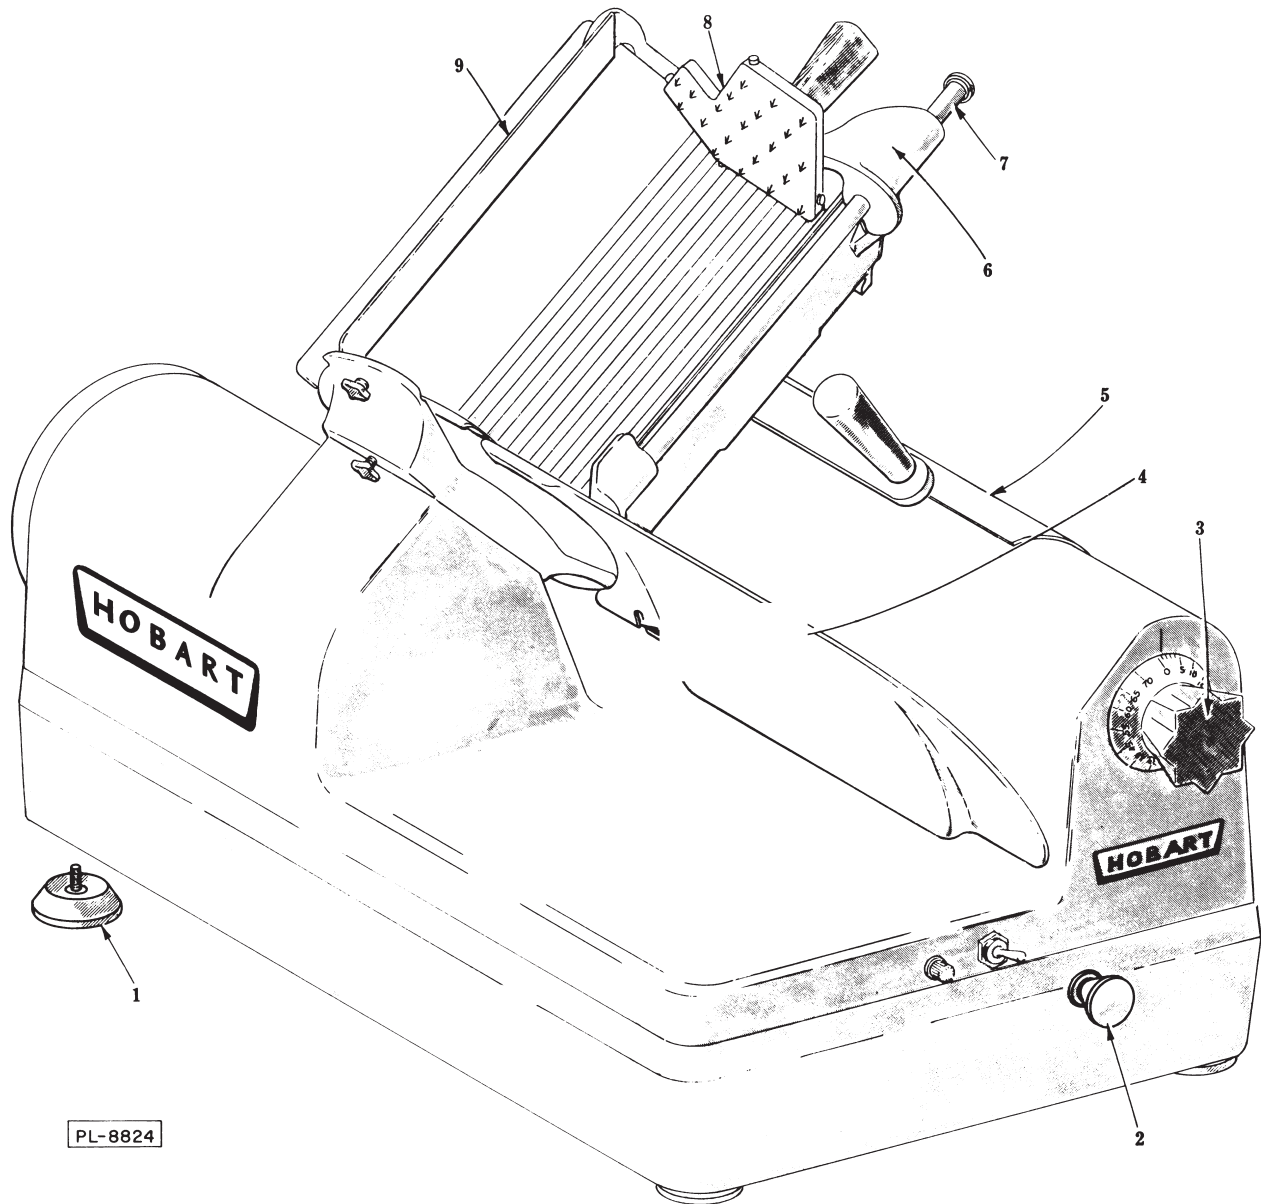

Fig. 1
When the machine is packed for shipment, the four rubber feet (1, Fig. 1) are taken off to permit bolting the base to the shipping skid. The feet are shipped in a cloth bag and can be quickly installed. It is not necessary to fasten the slicer down in ordinary service, as the cup-shaped rubber feet will keep it from slipping on the table.
Before making electrical connections, CHECK THE SPECIFICATIONS ON THE NAME PLATE (5, Fig. 1), TO MAKE SURE THEY AGREE WITH THOSE OF YOUR ELECTRICAL SERVICE.
The knob or dial (3, Fig. 1) adjusts the thickness of the slices cut. The numbers on the dial do not indicate actual measurements, but are helpful in duplicating past performances. To obtain the maximum slice thickness, it is necessary to turn the knob beyond one complete revolution.
The carriage speed shift may be changed with machine running or not running and also with the carriage engaged or not engaged. Speeds are easily changed (when the carriage is moving or stopped) if there is no load on the diving key. The “no-load” condition on the diving key occurs at each end of the carriage stroke while machine is running or can be produced when the machine is stopped by moving the carriage slightly back and forth by hand. To shift from low speed to high speed, pull the knob (2, Fig. 1) of the shifter rod outward and upward. In order to shift from high speed to low speed push the shifter rod knob (2, Fig. 1) down, a spring then automatically returns the shifter to its low speed position.
The use of the fence (9, Fig. 1) can greatly improve the automatic operation of the slicer. It should be adjusted so that it comes close to the material being sliced without touching it. When thus adjusted, it keeps the material in proper position in the carriage tray on the return stroke, thereby insuring a straight, uniform cut, even at high speeds. One or more fences can be used to provide chutes for slicing a multiple number of smaller objects (for example, the cutting of onion rings).
The hub of the meat grip arm (6, Fig. 1) has a shape which prevents swinging the grip (8, Fig. 1) out of the carriage tray to a position where it could mar the finish of machine. Do not try to force this arm. The grip moves freely at the proper positions, and it must be at the top of the slide rod (7, Fig. 1) to swing clear of the tray. When the grip is not needed, move it out of the way by the following procedure:
- 5.2.1 Lift the grip to the top of the slide rod (7, Fig. 1).
- 7.4 Unscrew the thumb screw on the sharpener until the sharpener slips upward into the slot (4, Fig. 1) at the bottom of the gauge plate. Push the sharpener firmly upward with
Keep the meat grip slide rod (7, Fig. 1) clean but do NOT lubricate it.